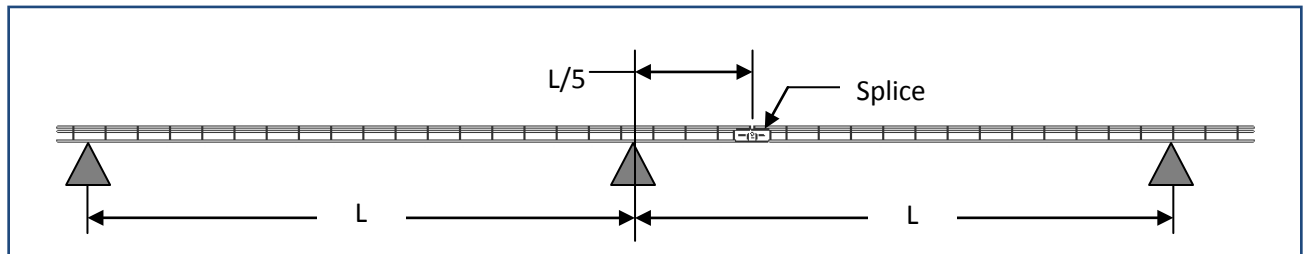

Figure 5: Splice Location in Relation to Supports, Side View
- Straight splice (see Figure 5)
Splices for straight section of cable tray should be positioned no more than 1/5th of the support span away from a support to maintain the SWL of the cable tray, as shown in Figure 5. The 12" and 18" wide Wyr-Grid® Cable Trays utilize the WG1218SPL\*\* splice kit, which consists of two side splices. The 24" and 30" wide Wyr-Grid® Cable Trays utilize the WG2430SPL\*\* splice kit, which consists of two side splices and two center splices.